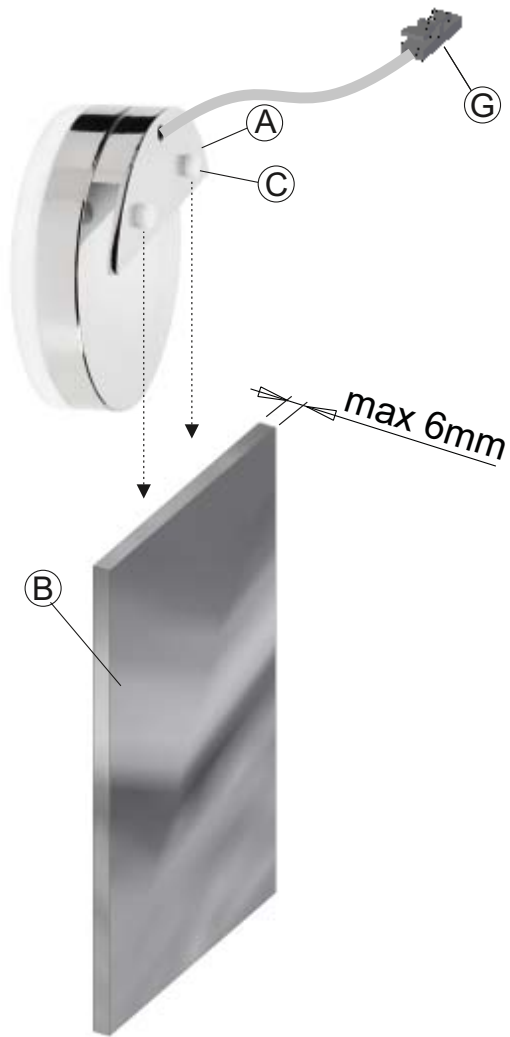

Fig 1
- Position the device's clamp (A) on the mirror (B) as illustrated in figures 1 and 2 and then tighten the bracket using the grub screws (C). Ensure that the grub screws (C) are suitably secured for the purpose of guaranteeing installation of the device.